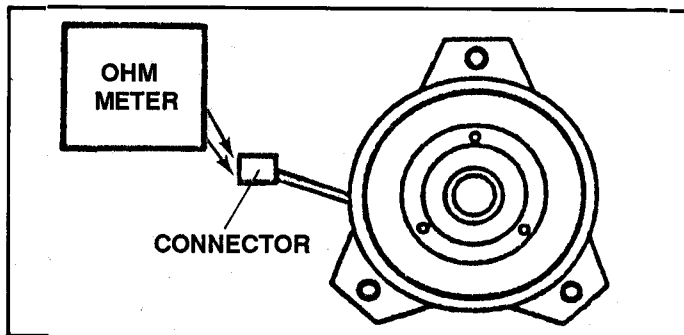

FIGURE 3.15 (CLUTCH FIELD COIL RESISTANCE)
2. Disconnect clutch wire connectors. See Figure 3.15.
3. Connect OHM meter leads to the two wires in the clutch connector. Refer to Figure 3.15.